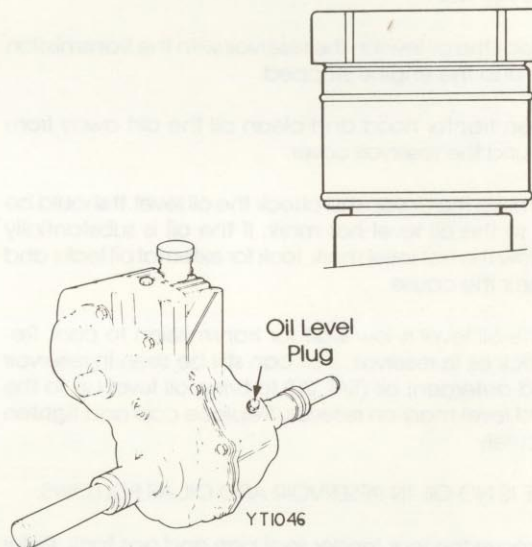

FIG. 4.4A
B. Remove oil level plug from differential (Fig. 4.4A). Oil should be level with lower edge of plug hole with tractor on level surface.